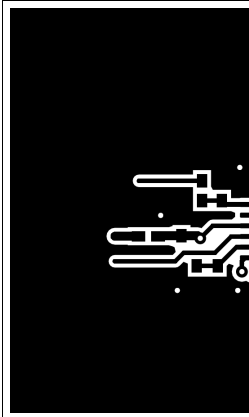

图 44. Top Layer Traces and Copper
- Increasing the PCB copper connecting to VDDA, VDDDB, VSSA and VSSB pins is recommended, with priority on maximizing the connection to VSSA and VSSB (see 图 44 and 图 45). However, high voltage PCB considerations mentioned above must be maintained.
图 44 and 图 45 shows top and bottom layer traces and copper.